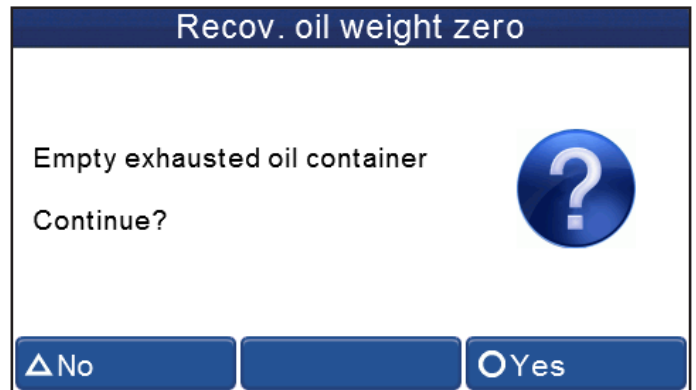

Fig. 44: Empty oil container
3. Screen in Fig. 44 will appear to remind user to empty the oil bottle. Once bottle is empty and reconnected to unit, press **YES**.